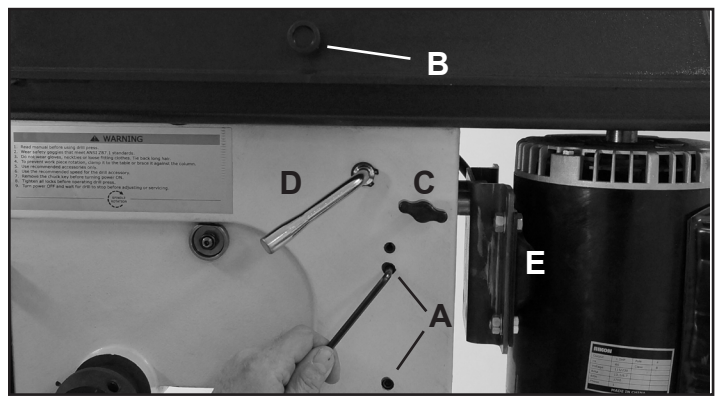

FIG. 6
2. Secure the drill press head to the column by tightening the two set screws (#2B) on the right side of the head. FIG. 6, A.
3. Install the small, belt cover Handle Knob (#2, on Parts Diagram C) onto the right side of the top lid. Open the belt cover and insert the Phillips head screw through the hole in the lid from the inside. Thread the handle on the outside of the belt cover and tighten it in place with a screwdriver. FIG. 6, B.
**NOTE:** Figures 6 & 7 also show the motor Lock Knobs (#6B, C), Tension Lever (#5B, D) and the motor Mount Assembly (E) that are referenced in the section on Changing Belt Speeds on page 14.
2. Loosen the belt tension by moving the motor closer to the head casting. Loosen the two Lock Knobs (#6B) then pull the Tension Lever (#5B) forward to shift the motor mount assembly forward. See page 10, Figures 6 & 7 for photos identification of these parts.